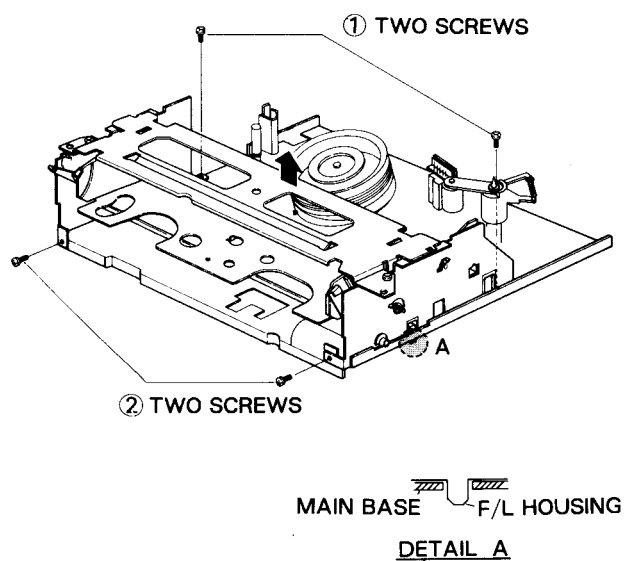

Fig. 4 Housing Ass'y Removal
1. Assemble the housing ass'y while pushing the rack gear forward to align the slot #1 of gear eject drive ② and the tooth #1 of rack gear ①. (Refer to Detail A)
2. Install housing ass'y and then tighten four (4) screws. (See Fig. 4)